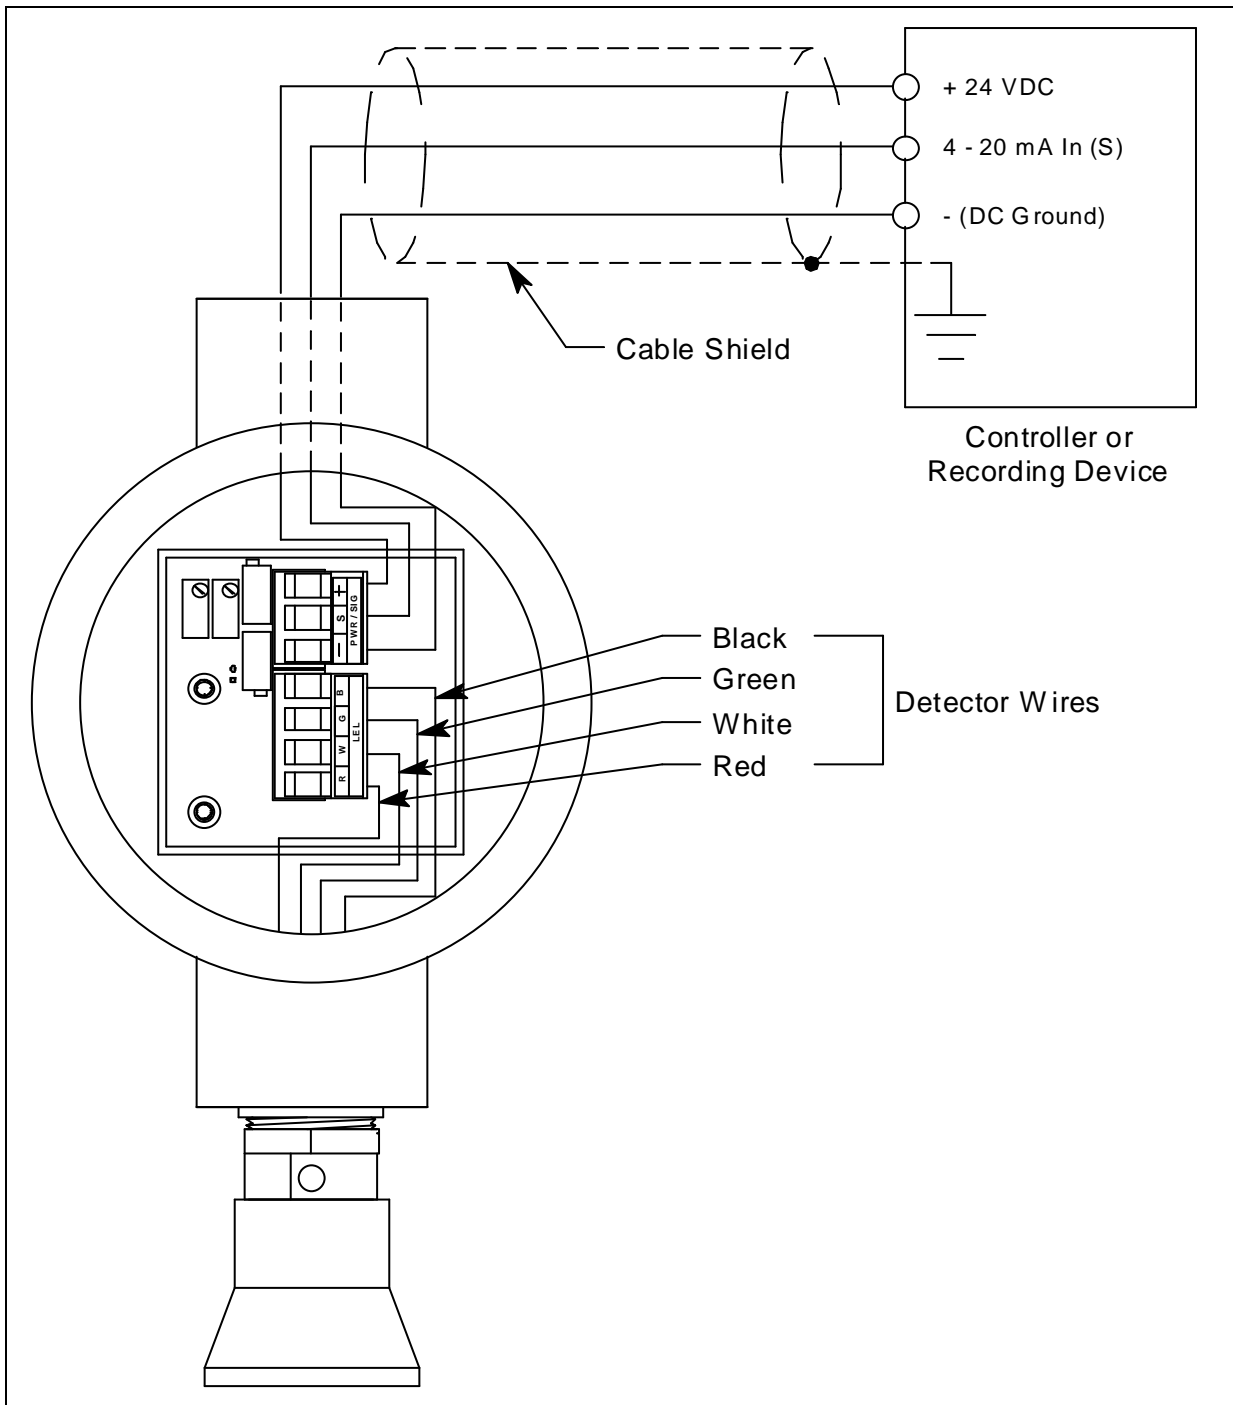

Figure 4: Wiring the Hydrogen Transmitter to a Controller
4. The detector leads are factory wired. Verify that the detector leads are wired to the amplifier's detector terminal strip as shown in Figure 4.
7. Pull out the controller terminal strip, and connect the three wires to the terminal strip as follows (see Figure 4).
11. Connect the wires to the applicable detector/transmitter terminal strip at the controller as shown in Figure 4.
8. Connect the detector leads to the detector terminal strip as shown in Table 3 below and Figure 4 on page 11 of this manual.
8. Install the detector and controller terminals strips into their sockets on the new amplifier as shown in Figure 4 on page 11 of this manual. If controller leads or detector leads were removed during this procedure, refer to Table 4 and Table 5 below.